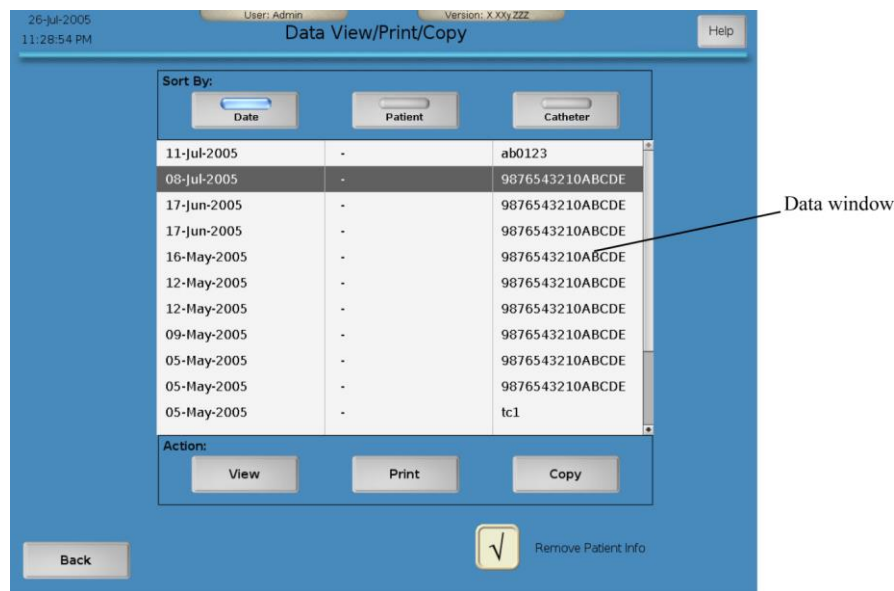

Figure 3-45. Data View/Print/Copy screen
1. Press the **Date**, **Patient**, or **Catheter** button to sort treatments by date (recent date first), by patient (alphabetical by last name - letter A first), or by microwave catheter serial number (lowest number first) (Figure 3-45). Unless you have administrative privileges, you can only access those treatment files you created: You cannot access treatment files created by other users.